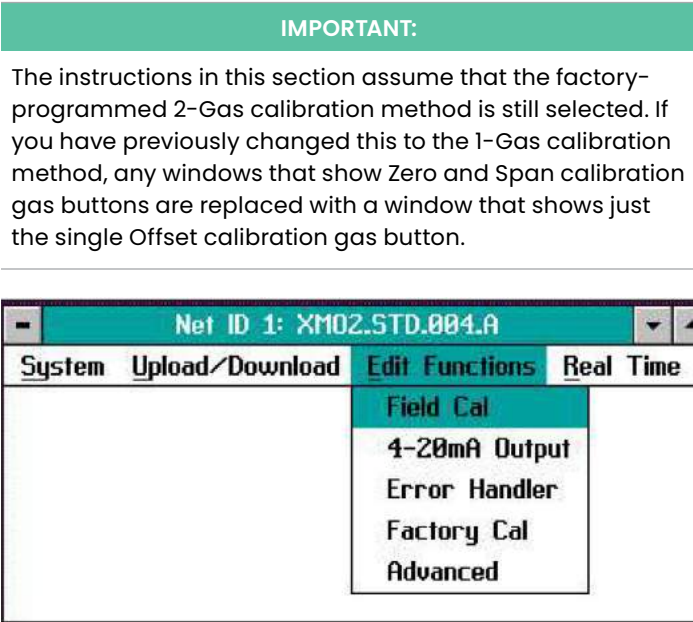

Figure 13: Field cal window
3. Click on the Field Cal option. In the Field Cal window (shown in *Figure 13 on page 20*), click on the Configure Cal button.
The following three buttons appear at the right of all menu windows (see *Figure 13* on page 20):
When you select the Field Cal option, a window similar to the one in *Figure 13* below opens.
Note: Clicking on the Next Item/Enter button selects the option listed on the status line above the option buttons (Perform Cal in *Figure 13* above). The option listed on the status line in any window is the option that was chosen the last time that menu was used.